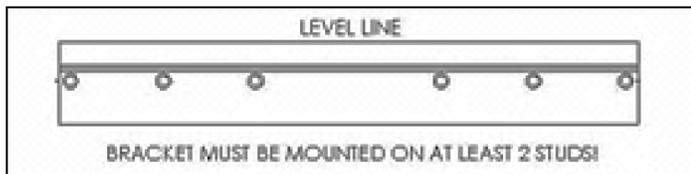

Figure 4 - Wall Mounting Bracket - NOTE: Drawing for Demonstration Purposes Only
a. The building frame (studs) must be 2 X 4 minimum and 16" on center (24" on the 399 model). If not, you must use ½" minimum plywood 24" x 48" with at least fourteen (14) #12 x 3" (3/16" x 3") round head tapping screws to the frame of the building to provide proper support for the boiler. No alternate methods of mounting or fastening (ex. Toggle bolts, hollow wall anchors, or any other fastener) may be used.
d. Pre-drill pilot holes on the marked stud locations. The pilot holes for bare studs should be 2" deep for all models. See table below for pilot hole diameter by wood type. Increase length for any material covering the stud. Ensure that the pre-drilled holes are straight and square to the wall. Failure to do so could lead to insufficient support or out of level boiler. See Figure 4.
c. Pre-drill holes on the marked stud locations. The pre-drilled holes should be ½" in diameter for 3/16" bolts, and ¾" in diameter for 3/8" bolts, to allow for the collapsed wings of the toggle to slide through. Ensure that the pre-drilled holes are straight and square to the wall. Failure to do so could lead to insufficient support of out of level boiler. See Figure 4.